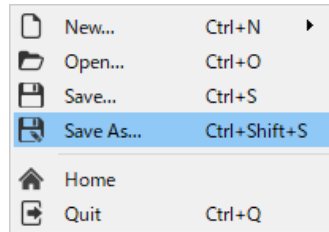

Figure 7-55 Save project file
- b) Click Save As. (Figure 7-55)